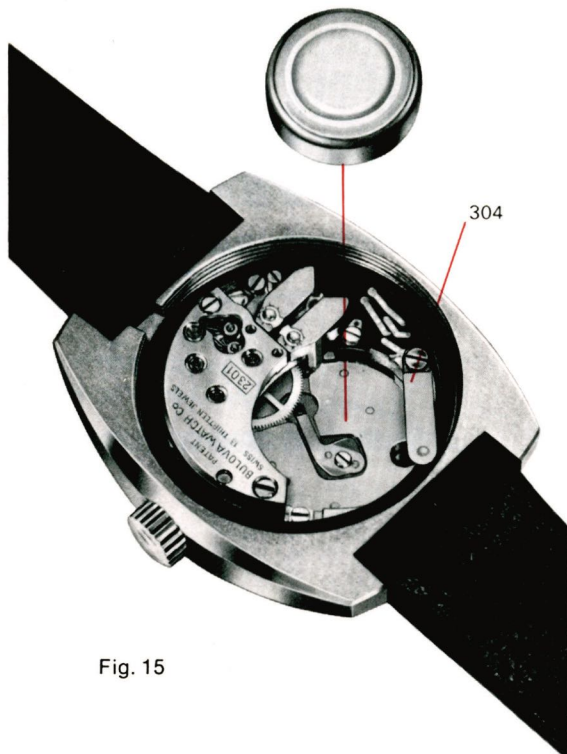

Fig. 15
2. Loosen cell strap screw (304) 1½ turns.
4. Remove cell. (Fig. 15)
2. Install the power cell (*printing down*) in cell well of movement. (Fig. 15)